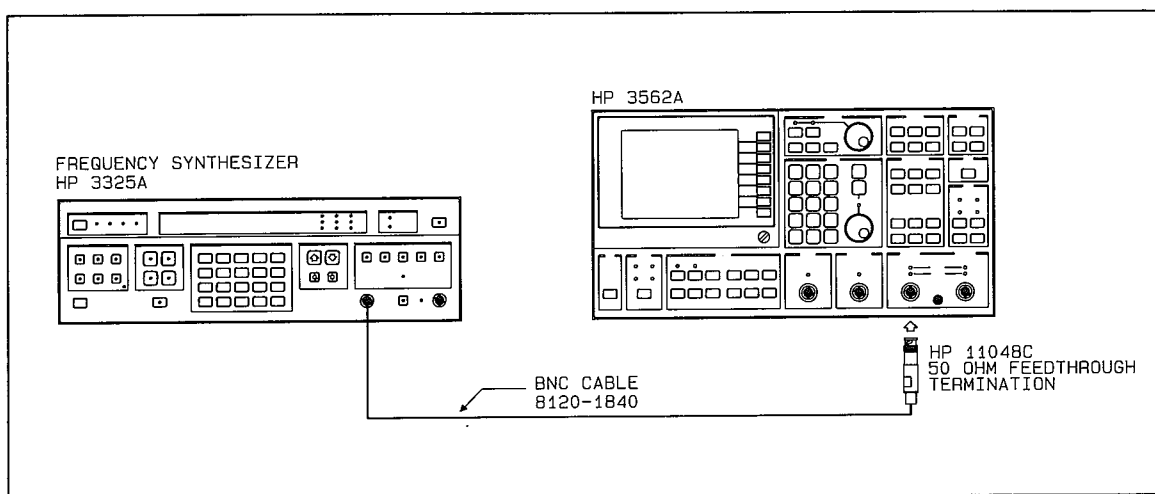

Figure 2-5 (OV) Frequency Accuracy Test Setup
A. Connect the test equipment as shown in figure 2-5. Refer to "Initial Equipment Setup," section 2-6, for unspecified parameters.